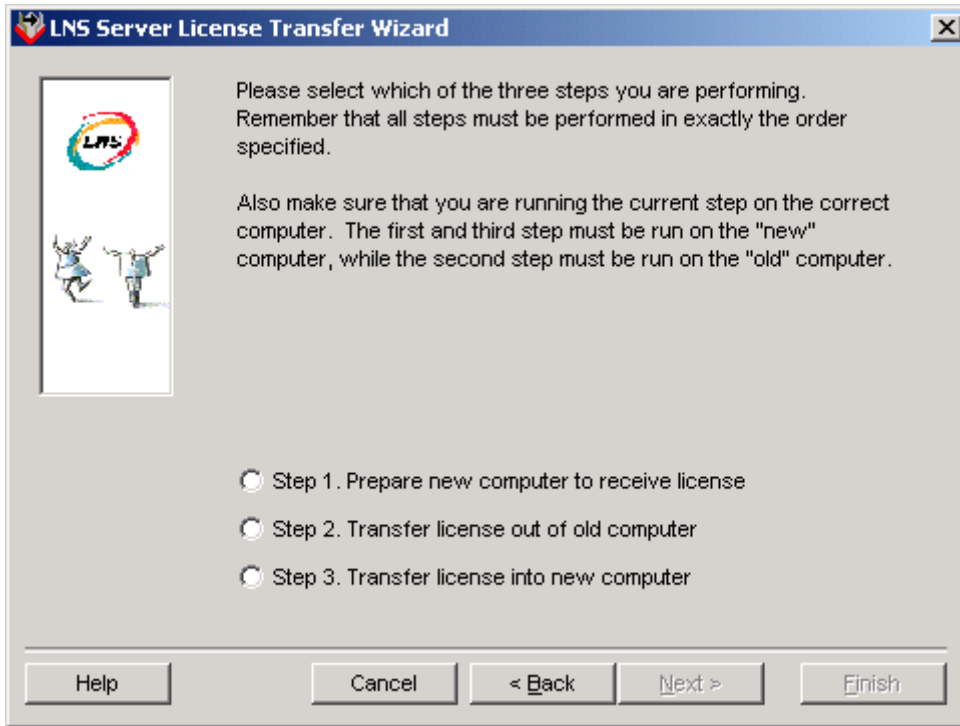

Figure 13.4 Transfer Step Selection Window
1. The initial window displays a welcome message. Click **Next** to open the dialog shown in Figure 13.4.
3. Select the drive to act as the transfer location from the pull-down list, and click **Back** to return to the dialog shown in Figure 13.4. Then, continue with Step 2 of the transfer operation.